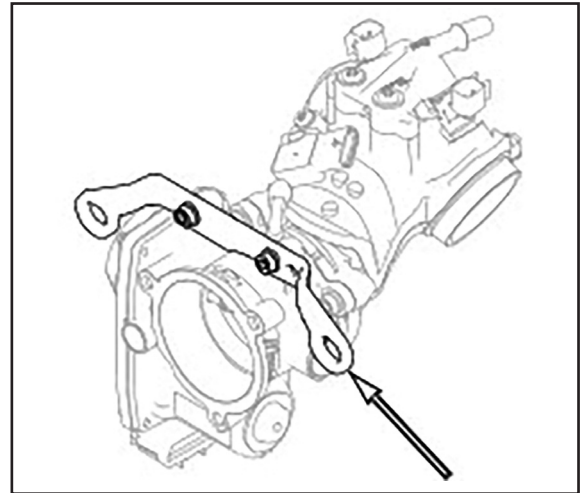

Figure 1. Remove Induction Module Support Bracket
2. See Figure 1. Remove and discard the induction module support bracket.